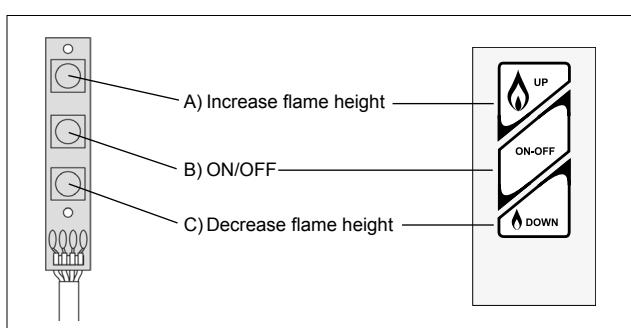

Figure 23: Switch Panel and Wall Switch/Touch Pad
- Press button "B" (see figure 23) until a short beep confirms the start sequence has begun; release button.
- Press and hold button "C" (see figure 23) to set appliance at pilot flame.
- Press button "B" (see figure 23).
(See figure 23)